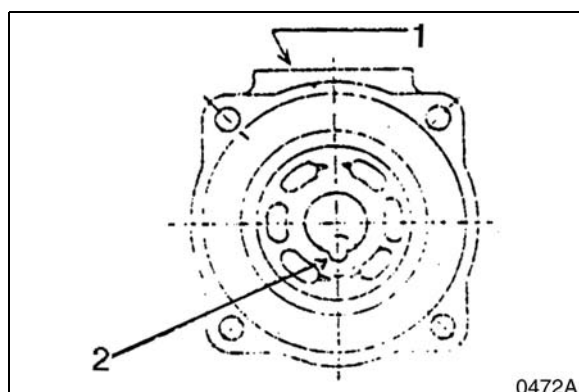

Figure 44
- Assemble valve plate (131), O-ring and upper valve casing (303). Refer to assembly that shows "R" part (2, Figure 44) of the valve plate turned away from mounting flanges (1) on side of valve plate. Lightly grease O-ring to help keep it in place during assembly.